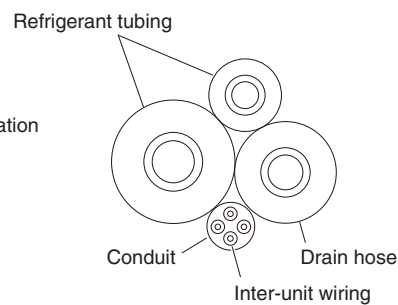

Fig. 3-27
- (5) Assemble the refrigerant tubing, drain hose, and conduit (including inter-unit wiring) as shown in Fig. 3-27.